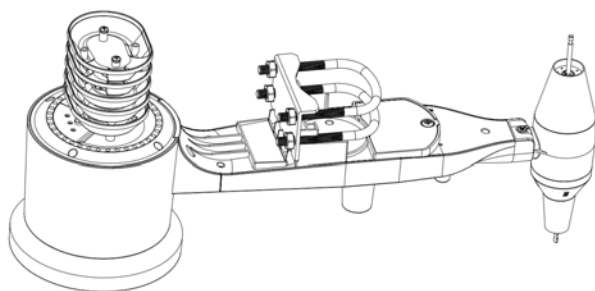

Figure 6: U-Bolts and nuts installed
Loosely screw on the nuts on the ends of the U-bolts. You will tighten these later during final mounting. Final assembly is shown in Figure 6.
1. Use a screw or nail to affix the remote sensor to the wall, as shown in Figure 6